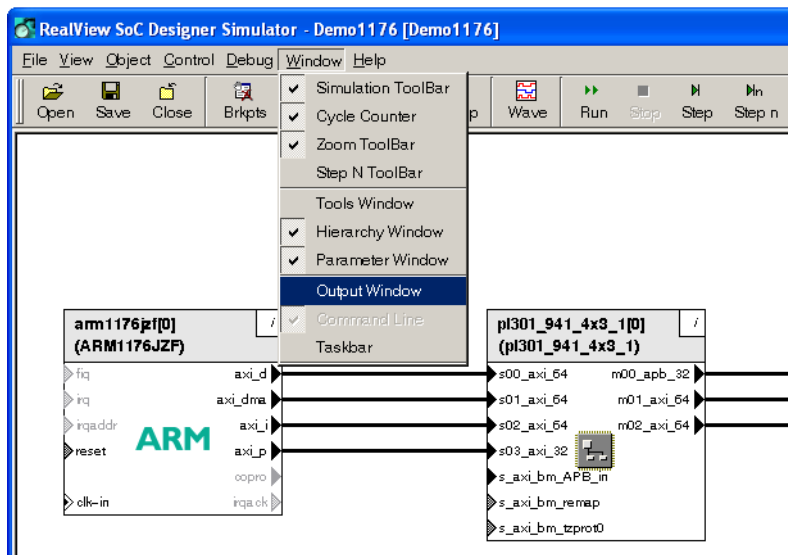

Figure 7-10 Disabling the Output Window
1. Select **Window** from the Main menu and ensure that the **Output Window** menu item is not selected, as Figure 7-10 shows.